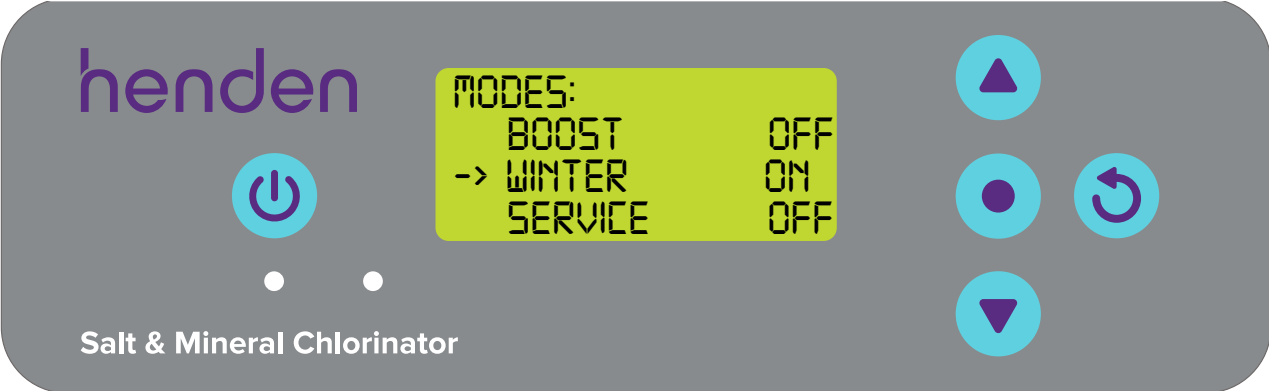

Figure 9.52
- Press the  **menu/setting cancel (go back)** button twice to revert back to the HOME SCREEN (refer Figure 9.52).